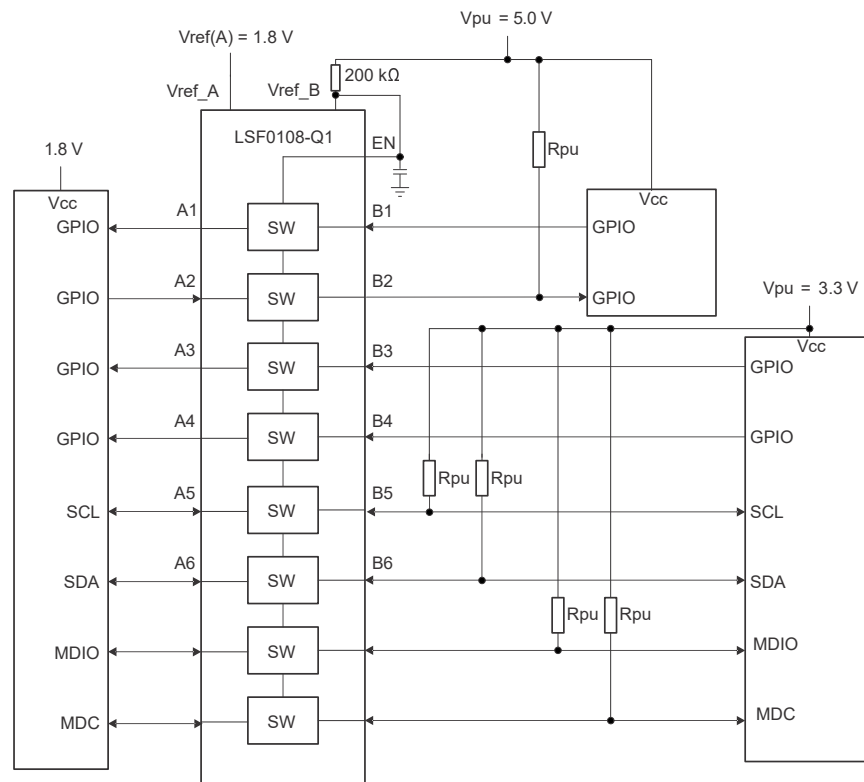

Figure 9-1. Bidirectional Translation to Multiple Voltage Levels
- V_{CCB}/V_{CCA} are not the same as V_{ref_B} or V_{ref_A} : V_{CCB} refers to the B-side supply voltage supplied to the LSF device, while V_{ref_B} refers to the voltage at the V_{ref_B} pin (pin 7 of Figure 9-1) on the other side of the 200 k Ω resistor
As shown in Figure 9-1, V_{ref_B} is connected through a 200-k Ω resistor to the V_{PU} power supply at 5 V and V_{ref_A} is connected to a 1.8 V power supply. The A1 and A2 channels have a maximum output voltage equal to V_{ref_A} , and the B1 and B2 channels have a maximum output voltage equal to V_{PU} .
Figure 9-1 shows how the reference supply voltage V_{ref_A} is connected to the processor core power supply at 1.8 V and V_{ref_B} is connected through a 200 k Ω resistor to a 5 V power supply. The output of A3 and B4 has a maximum output voltage equal to V_{ref_A} , and the bidirectional interface (Ch5/6, MDIO, MDC) has a maximum output voltage equal to V_{pu} .